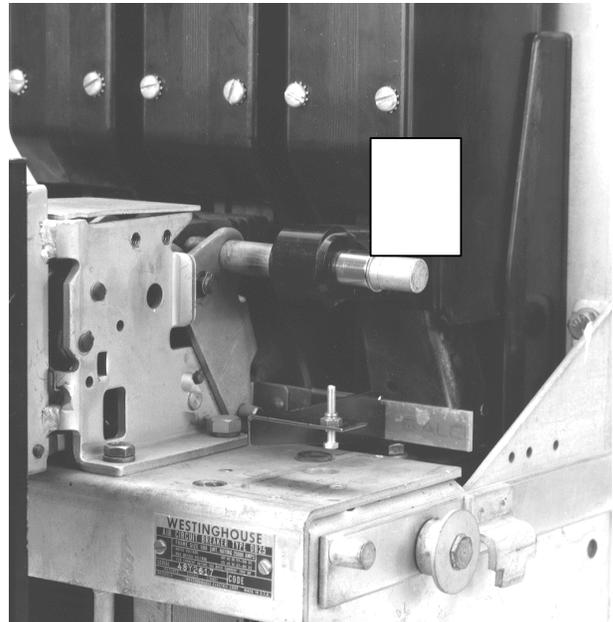

Figure 18. Installing the reset sleeve onto the cross bar of a DB-25 breaker.
3. On a DB-25 breaker, remove the existing snap ring from the right end of the cross bar. Install the reset sleeve on the cross bar and secure it with the snap ring provided, as shown in Figure 18.